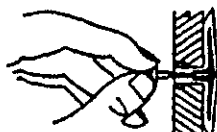

Figure 10-Popping Open Anchor Wing For Thin Walls
4. For thin walls (1/2" or less), insert red key into wall anchor. Push red key to "pop" open anchor wings (see Figure 10).